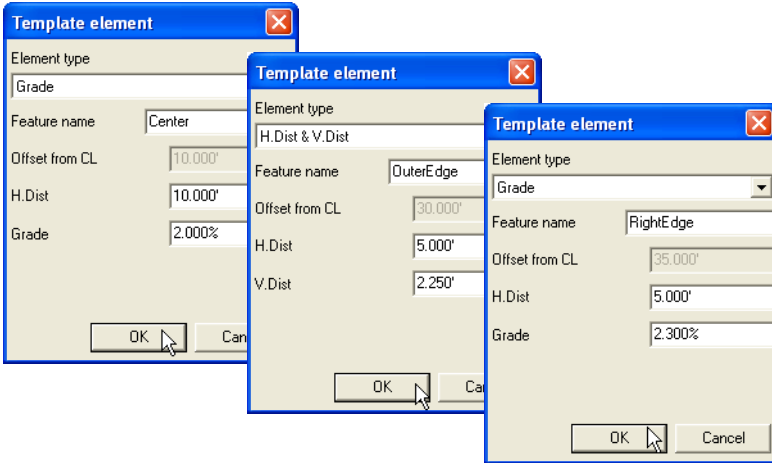

Figure 6-17. Add Templates Elements
- Press **Add** to enter further elements, selecting from the Grade, H.Dist & V.Dist, Curb, and Side slope as needed (Figure 6-17). Click **OK** to save the element.